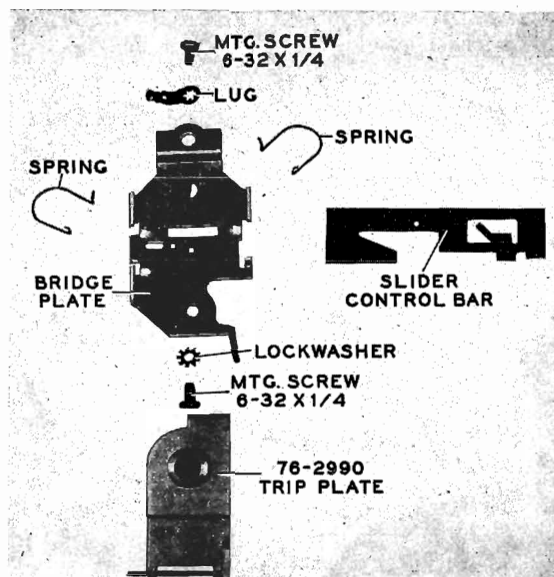

Figure 23—BRIDGE ASSEMBLY
- b. Remove link rod, 56-4589FA3, from slider control bar. Complete assembly of bridge is shown in figure 23.